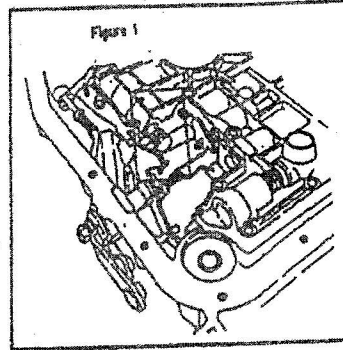

Figure 1
3. Install valve body into transmission carefully. You must engage selector lever into manual valve (Figure 1).